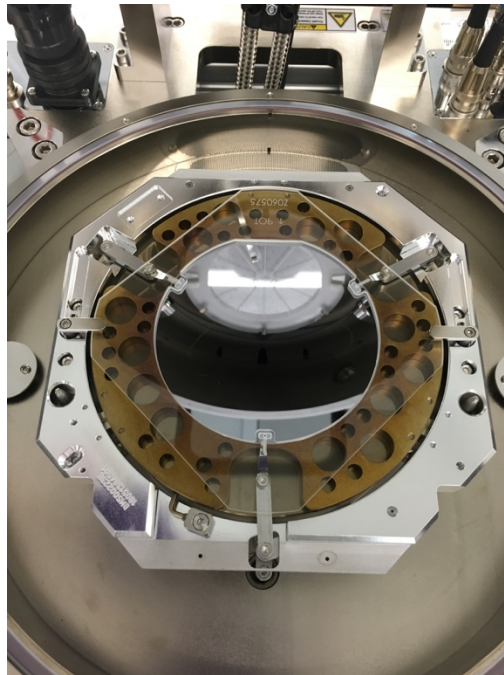

Figure 4: Clamping glass going around both wafers with clamps correctly applied
- viii. Carefully apply clamps on either side of the clamping glass without lifting the tooling. Make sure the clamps are perpendicular to the side of the clamping glass and they make contact with the clamping glass at the same time. If they are not perpendicular, the wafer may break. See Figure 4 for correct positioning of the clamping glass and clamps.